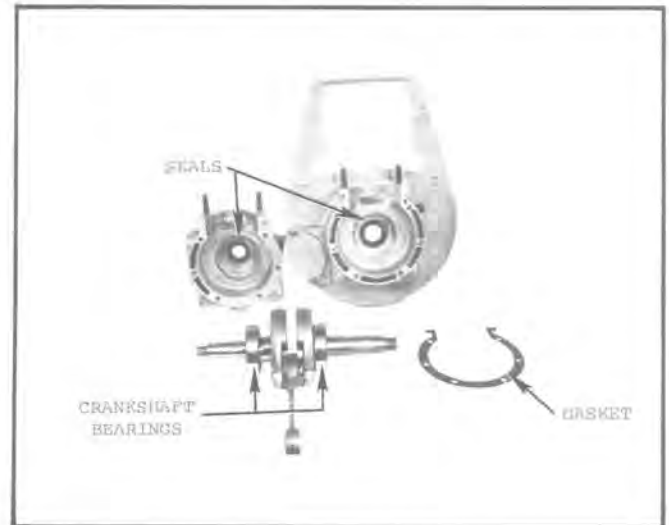

Fig. 26 — Crankcase Separated and Crankshaft Assembly Removed (L 297 Engine Shown)
- j. Turn crankcase over, placing it on the wooden blocks, and allow the weight of the crankshaft to pull bearing free while applying heat to bearing area as in step "i". Fig. 26 shows the crankshaft and rod assembly free of crankcase.